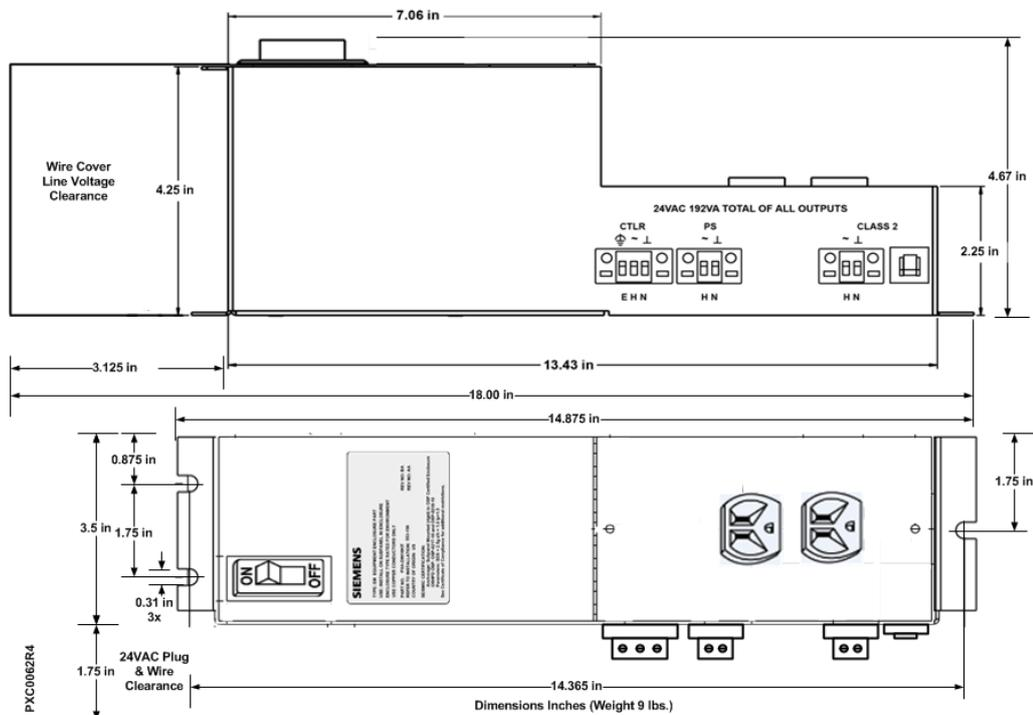
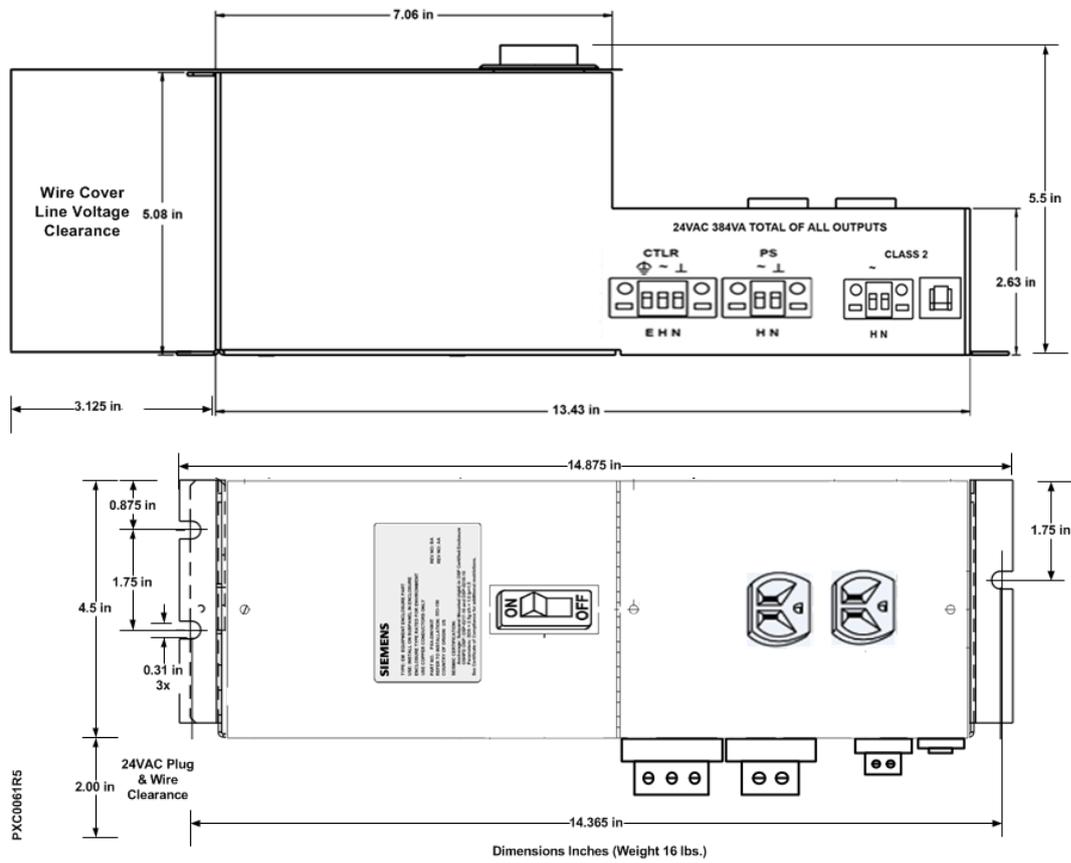

Figure 2, PX Series 192VA Service Box Mounting Dimensions
Figure 3, PX Series 384VA Service Box Mounting Dimensions
- See Figure 2 and Figure 3 for dimensions, weights, keep outs and sticker location.